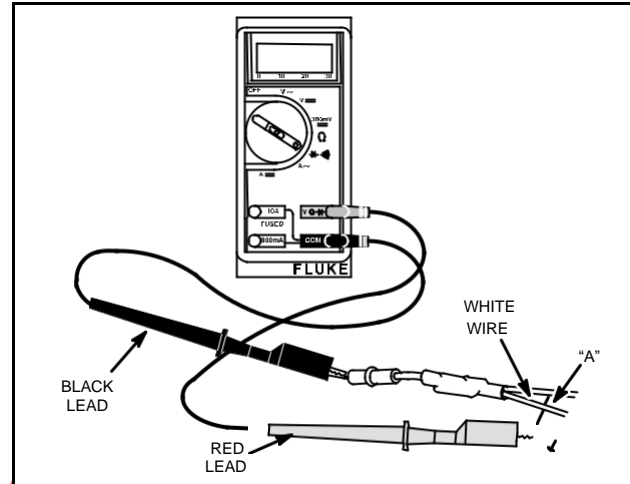

Fig. 770 – DIODE TESTING – LIGHTING CIRCUIT
4. Attach RED test lead clip to point "A," Fig. 770. (It may be necessary to pierce wire with a pin as shown.)